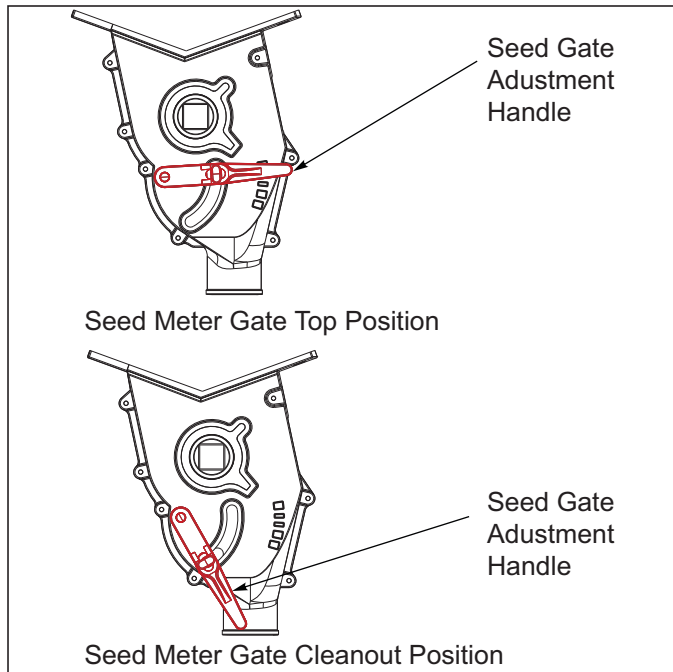

Figure 4-13: Seed Meter Gate Adjustment
1. Use the top seed gate position when planting small seeds such as alfalfa, barley, rice, or wheat **See Figure 4-13.**
5. The seed gate may also be completely lowered to clean out the meter and seed box **See Figure 4-13.** Fully open all seed meter gates at the end of planting season to clean out any remaining seed.